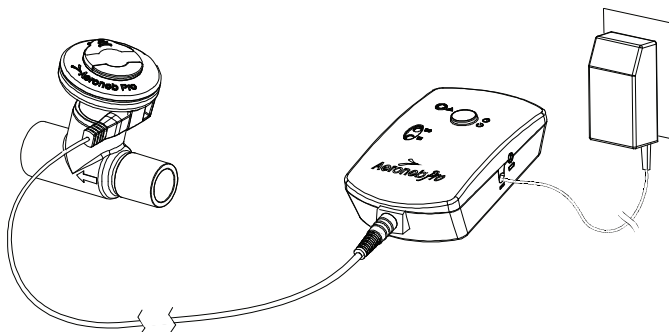

Figure 5: Connecting the AC/DC adapter
6. To operate on AC power (the primary mode of operation), insert the AC/DC adapter connector into the control module and plug the adapter into an AC power source (Figure 5).
To recharge the battery, connect the AC/DC adapter to the control module and AC power (Figure 5). The battery status indicator is amber while charging and green when fully charged. Allow a minimum of four hours for the internal battery to fully recharge.